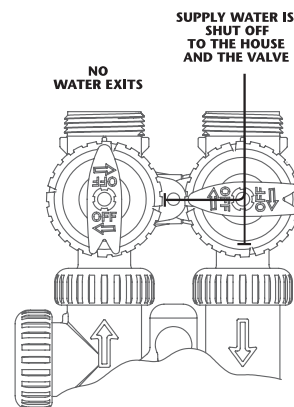

FIGURE 4
4. **SHUT OFF POSITION:** The inlet handle points to the center of the bypass valve and the outlet handle points away from the control valve. The water is shut off to the building. The water treatment system will depressurize upon opening a tap in the building. A negative pressure in the building combined with the unit being in regeneration could cause a siphoning to the building. If water is available on the outlet side of the unit, it is an indication of water bypassing the system (**Fig. 4**) (i.e. a plumbing cross-connection somewhere in the building).